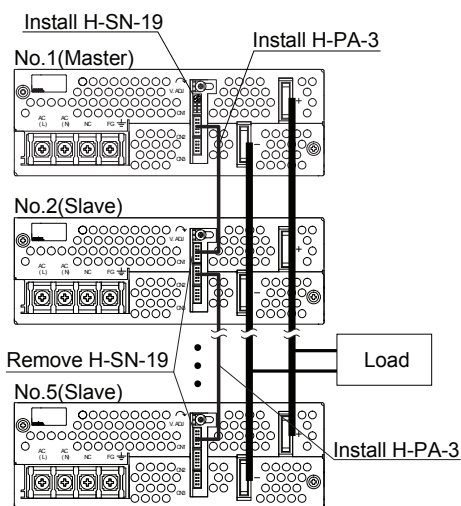

Fig.4.3 Example of parallel connection (PBA1500F)
- You can use the power supplies in parallel operation by connecting units as shown in Fig.4.3.